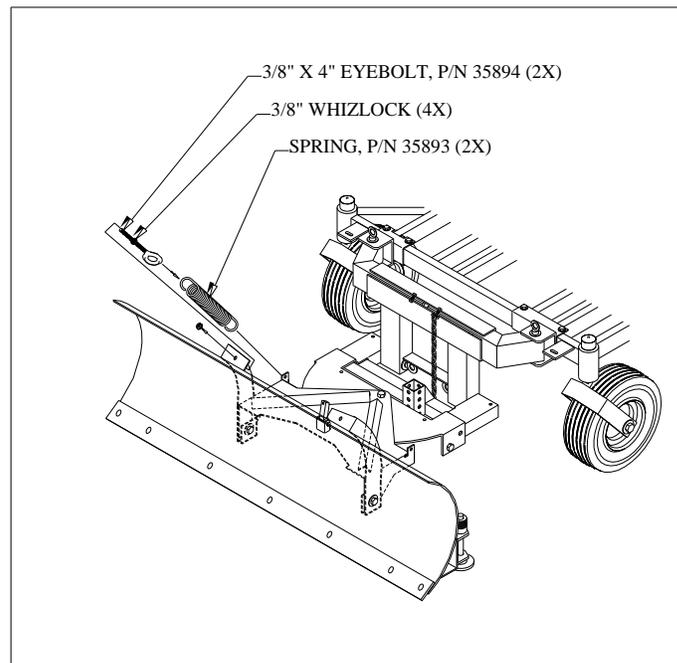

Fig. 6
6. Spin one 3/8" whizlock nut onto 3/8" x 4" eyebolt (11) about halfway, with flange on nut away from eye on eyebolt. Hook a spring (19) into hole on side of pivot assembly as shown. Hook eyebolt with whizlock onto opposite end of spring just installed and pass the threaded end of the eyebolt through the mount tab on the back of the blade as illustrated. Secure with another 3/8" whizlock nut. Repeat for the opposite side. Note: these two trip spring assemblies are a safety feature of the blade, when contact is made with a hard or heavy object at ground level the springs allow the blade to trip over to ease the shock on operator and tractor. The tighter the springs are installed, the harder the blade is to trip. Adjust tension to your preference. **FIG. 6**